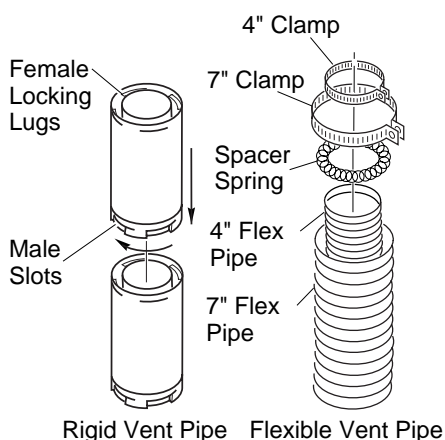

Figure 12 - Vent Pipe Connections
Twist-lock Procedure: The female ends of the pipes and fittings have four indentations (locking lugs). These lugs will slide straight into matching slots on the male ends of adjacent pipes and fittings. (All connections must be sealed with high temperature silicone sealant as specified in the second warning statement on page 7.) Push the pipe sections together and twist one section clockwise approximately one-quarter turn until the sections are fully locked. See Figure 12, page 9. **Note:** Horizontal runs of vent must be supported every three feet. Use wall straps for this purpose.
Flexible vent pipe must be installed with spacer springs every 12". See Figure 12, page 9. All connections must be clamped tightly and sealed with high temperature silicone sealant as specified in the second warning statement on page 7.
2. Assemble the desired lengths of pipe and elbows necessary to reach from the fireplace flue up through the firestop. All connections must be sealed with high temperature silicone sealant as specified in the second warning statement on page 7. Be sure all pipe and elbow connections are fully twist-locked (see Figure 12, page 9).